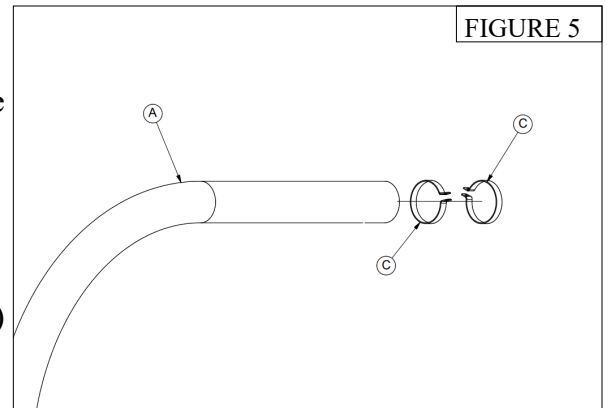

FIGURE 6
9. Place the assembly from 7a or 7b or 7c above on to the end of the pole. It is easiest to place the assembly onto the end of the pole upside down and then rotate 180° before installing and tensioning the 1/2" Square Head Set Screws (N). Confirm that the Rim (Q) and Backboard (P) are level. Tighten the 1/2" Square Head Set Screws (N) against the Gooseneck Pole (A), then tighten the 1/2" Jam Nuts (O) to lock the 1/2" Square Head Set Screw (N) See Figure 6 and Figure 7.